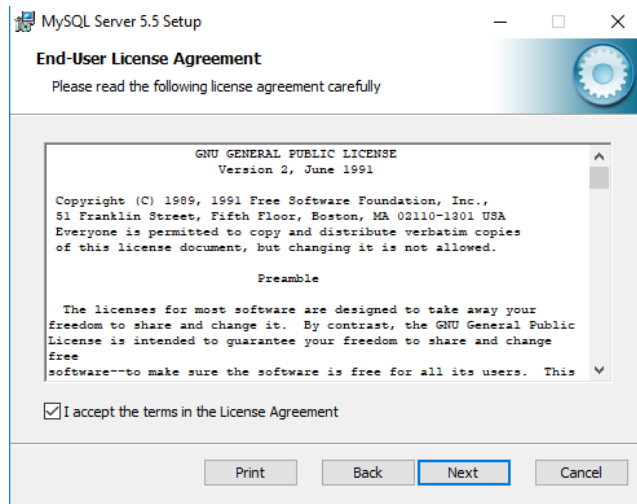

Figure A3
3. Read and accept the EULA for MySQL and click Next. (Figure A3)